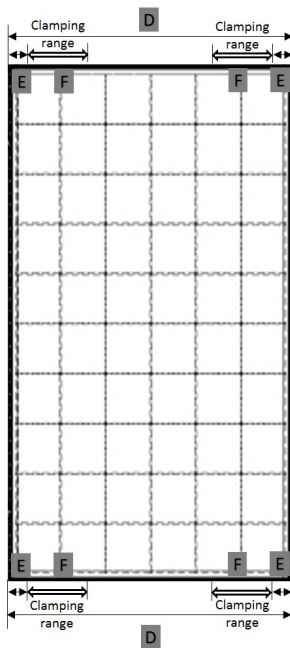

Figure 5: Short side clamping range on modules PVxxx-60MMJ / SPVxxx-60MMJ
- For mounting the supporting rails on the short side of the frame, slide bolts through the rail grooves next to the 4 clamps locations. The module may be clamped only in the permitted clamping range. For the exact locations refer to area F in *Figure 5* and *Table 3*.
- For mounting the module on the short side of the supporting of the frame, slide bolts through the rail grooves next to the 8 clamps locations. The module may be clamped only in the permitted clamping range. For the exact locations refer to area F in Figure 5 and Table 3.